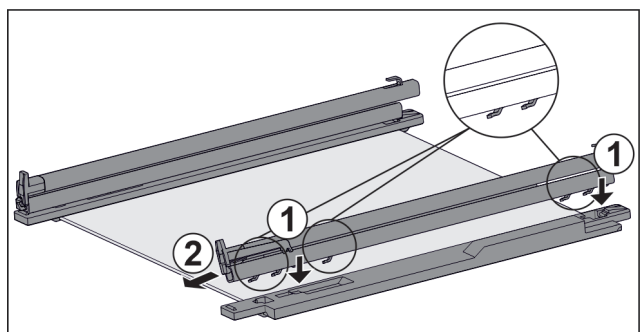

Fig. 129 Glass shelf with rails and retaining parts
- ▶ Place rail hooks onto the openings of the **left** retaining part. *Fig. 129 (1)*
- ▶ Push rail forwards. *Fig. 129 (2)*
- ▶ Place rail hooks onto the openings of the **right** retaining part. *Fig. 129 (1)*